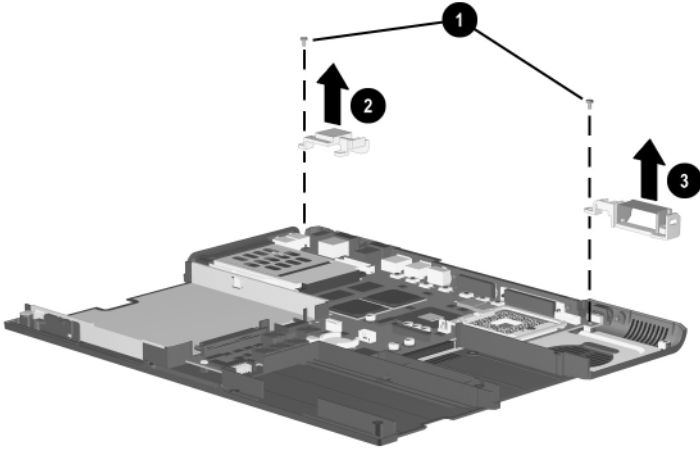

Figure 5-32. Removing the Display Supports
3. Remove the two PM2.0 × 8.0 screws ❶ that secure the left ❷ and right ❸ display supports to the base enclosure (Figure 5-32).